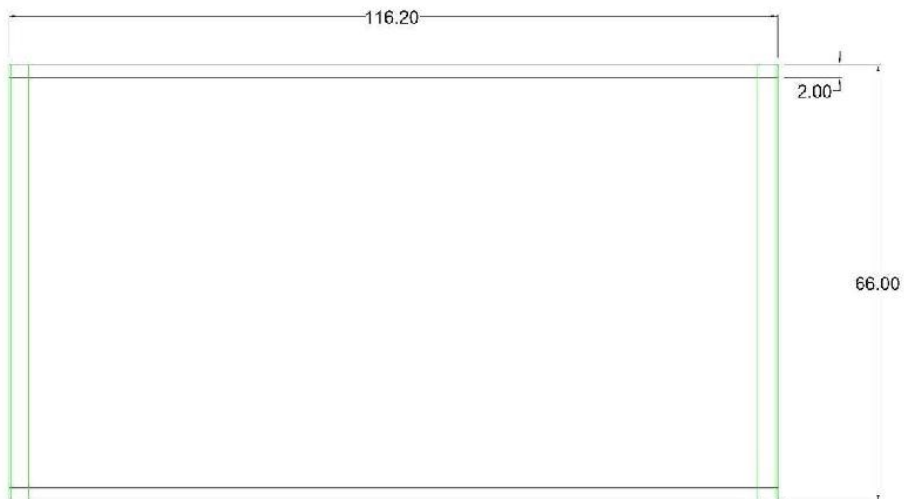

Figure 85: Dimensions for baking chamber support frame
7.2.2. Weld two pieces of 66cm 3x3cm angle bar on top of two pieces of 2x2cm 116.2cm square pipe to create the frame that will support the baking chamber (See Figure 85).